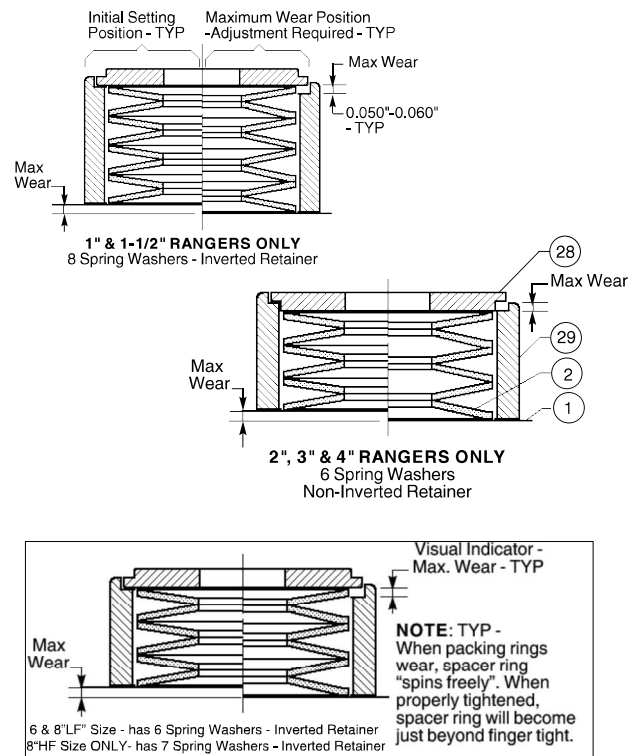
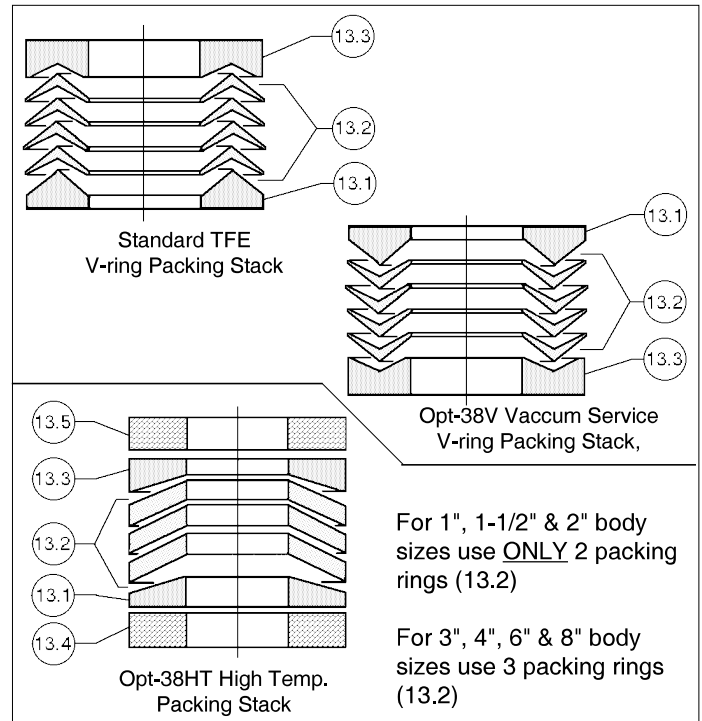

FIGURE 9
FIGURE 11
1. Ensure that packing flange nuts (22) have not worked loose during shipment.
2. For non-live loaded construction, hand tighten the nuts (22) enough to stop any leakage. Do not over tighten.
3. For live loaded construction, if spacer ring (29) is loose, tighten both nuts (22) equally
until spacer ring (29) no longer “spins freely” using two fingers. Rotate both nuts (22) additional 1/2 revolution for correct packing load. See Figure 9 for correct orientation of live-loaded packing design.
1. Remove the actuator assembly (AA) from the valve body assembly (BA). Refer to Actuator maintenance manuals IOM-48 or 148.
2. Secure body (1) in a vise with the stem (7) horizontal to the floor. Place matchmarks between yoke (12) and body (1) to assist in final orientation when re-assembled.
- a. Loosen both packing flange nuts (22) until clearance exists between the bottom of the nut (22) and the retainer (28).
- b. Spacer ring (29) should "spin freely". If stacked mechanism (27)(28)(29) is not loose due to corrosion, debris, packed dirt, etc., tap the spacer ring (29) lightly while attempting to pry up the spacer ring (29) bottom with a thin flat tool.
- c. Remove both packing flange nuts (22) only after the live-loaded mechanism (27)(28)(29) is "free" and loose.
- d. Pry up both live-loaded mechanisms (27)(28)(29) one side at a time. Carefully lift the mechanism (27)(28)(29) over the packing stud (21) ensuring that the Belleville spring washers (27) are not dropped in removal, preventing a determination of washers' (27) orientation one-to-the-other. Set the two mechanisms (27)(28)(29) down together, side by side.
- e. Inspect the retainers (28) for orientation. Both of the retainers (28) should have the same orientation. Improper/differing orientations will cause unbalanced loading of the packing rings (13). See Figure 9 for proper orientation.
- f. Inspect both spring washer (27) stacks for proper orientation by carefully lifting off the spacer ring (29) and retainer (28), exposing the spring washer (27) stack. Each stack of spring washers (27) should be oriented the same. Improper/differing orientation will cause unbalanced loading of the packing rings (13). See Figure 9 for proper orientation.
- g. Replace all Belleville spring washers (27) if there are any signs of corrosion. It is recommended that spring washers be replaced in full sets. The spacer rings (29), retainers (28), as well as the packing studs (21) should be replaced if corroded.
- h. Remove yoke (12) bolting by removing two cap screws (19) on 1", 1-1/2" and 2" sizes, or two nuts (22) on the 3", 4", 6" and 8" sizes.
1. Secure body (1) in a vise with stem (7) vertical to the floor. Reassemble stem (7) per appropriate Subsection E., F., or H.
2. Never replace packing (13) without reconditioning the stem (7) surface finish and the body (1) stuffing box as specified in Subsection IV.D.
3. For TFE V-Ring Packing. (See Figure 11.)
NOTE: Following text pertains to “standard” packing stack (13) orientation. Stack procedures differ slightly for other packing options. See Figure 11.
- a. Remove packing follower bushing strip (16). Solvent clean packing follower (15). Insert new packing follower bushing strip (16). Ensure no overlap of strip (16).
- b. Carefully place lower adapter (13.1) of packing ring set (13) over stem's (7) end, properly oriented (see Figure 11). Using the packing follower (15), push the adapter (13.1) into the body's (1) stuffing box.
- c. Carefully install the first individual V-ring (13.2) over stem's (7) end, properly oriented. Push down as far as possible using fingers. Carefully place each ring (13.2) upon the other until all V-rings (13.2) are stacked, properly oriented.
- d. Place upper adapter ring (13.3) over the stem's (7) end, properly oriented.
- e. Place the packing follower (15) over the stem (7) end, properly oriented, until sitting on the upper adapter ring (13.3). Push down on the packing follower (15) using fingers; all V-rings (13.2) and upper
- i. Place each spring washer (27) stack over its packing stud (21) oriented as shown in Figure 9.
- j. Place each spacer ring (29) over its packing stud (21) and spring washer stack (27) oriented as shown in Figure 9.
- k. Place each retainer (28) over its packing stud (21) oriented as shown in Figure 9. Ensure that each retainer (28) is properly positioned into each spacer ring's (29) groove, and that the retainer's (28) inversion is correct.
- a. Solvent clean the packing follower (15).
- b. Carefully place the lower braided ring (13.4) over the stem's (7) end. Using the packing follower (15) push the braided ring (13.4) into the body's (1) stuffing box. **NOTE:** *It will be necessary to pull up on the stem (7) as the rings (13.2, 13.4) and lower adapter (13.1) are "pushed" into the stuffing box.*
- c. Carefully place the lower adapter (13.1) properly oriented (see Figure 11) over the stem's (7) end and push into the stuffing box similar to the lower braided ring (13.4) of Step 4.b.
- d. Carefully place a packing ring (13.2) properly oriented (see Figure 11) over the stem's (7) end and push into the stuffing box similar to the lower braided ring (13.4) of Step 4.b. Repeat for each ring (13.2).